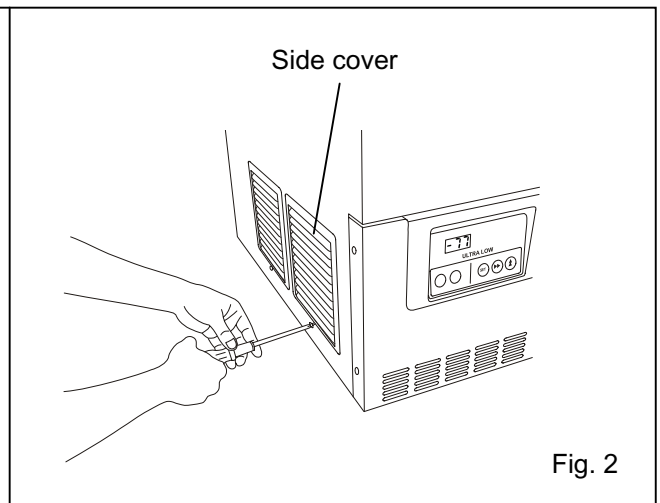

Fig. 2
2. As shown in the Fig. 2, remove 1 screws fixing the side cover with a screw driver and remove the side cover.
2. As shown in Fig. 2, install the recorder to the front panel by using the fixture enclosed with the recorder and the mounting plate (MDF-S3085).